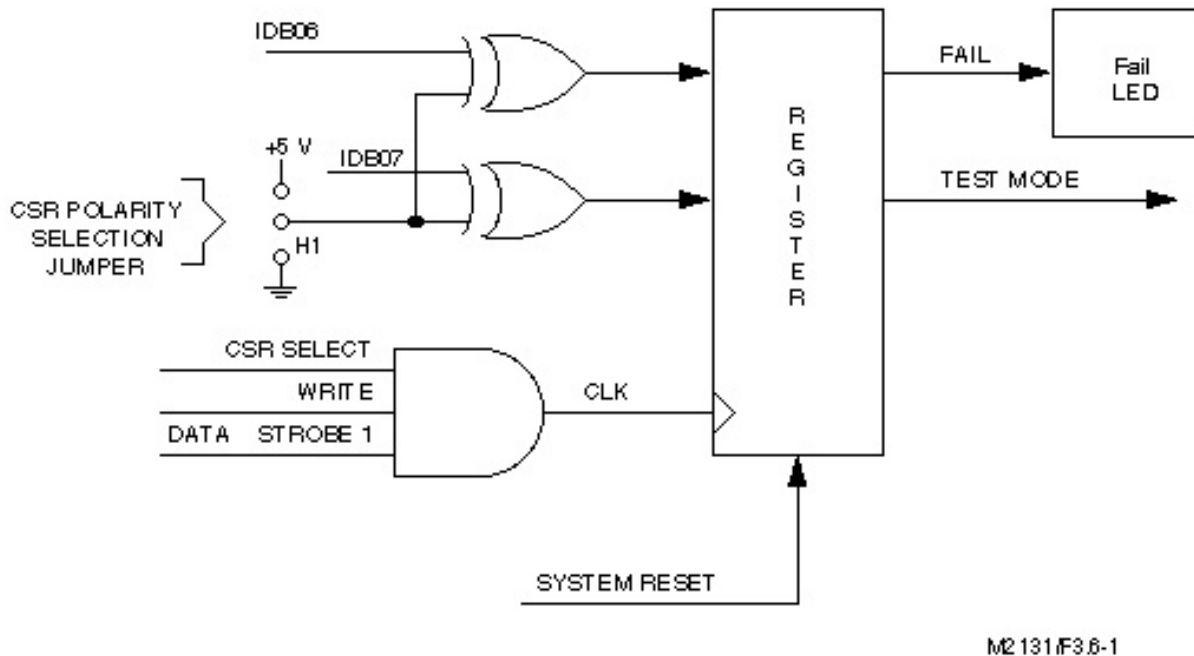

Figure 3.6-1. CSR Control Logic Block Diagram
The CSR is a write-only register that controls the Test Mode (TM) bit and the front panel Fail LED as shown in Figure 3.6-1. The TM bit disables the output drivers to perform Built-in-Test functions. Both bits of the CSR are initialized active upon system reset or power-up such that the driver outputs are disabled and the front panel LED is illuminated. A jumper H1 is configured such that when writing a logic "one" to bits 6 and 7 of the CSR, the LED is illuminated and the output drivers are off-line.